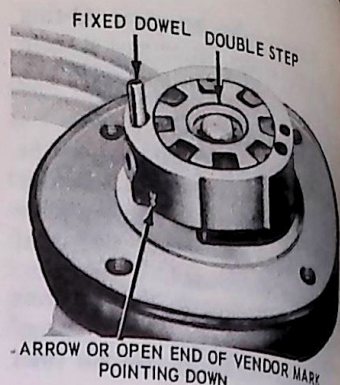

FIG. 15 Cam and Rotor Installation
9. Install the cam and rotor assembly onto the pump housing plate with the fixed dowel passing through the first hole to the left of the cam notch when the arrow on the cam OD is pointing toward the lower pressure plate (Fig. 15). If the cam and rotor assembly will not seat, turn the rotor shaft slightly until the spline teeth mesh, allowing the cam and rotor to drop down into position.